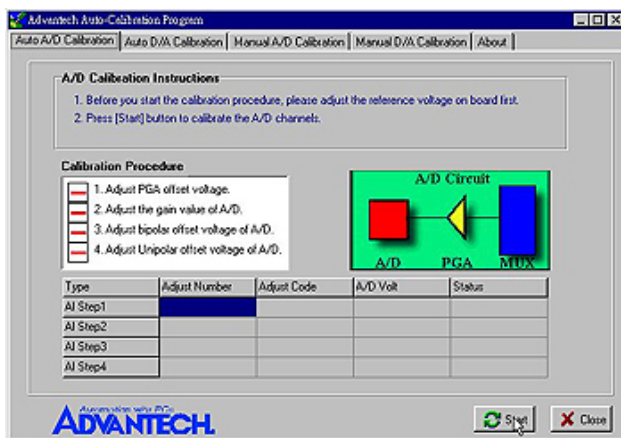

Figure 6-4: Auto A/D Calibration Dialog Box
Step 4: Click the *Auto A/D Calibration* tab to show the A/D channel auto-calibration panel (Fig. 6-4). Press the start button to calibrate A/D channels automatically.